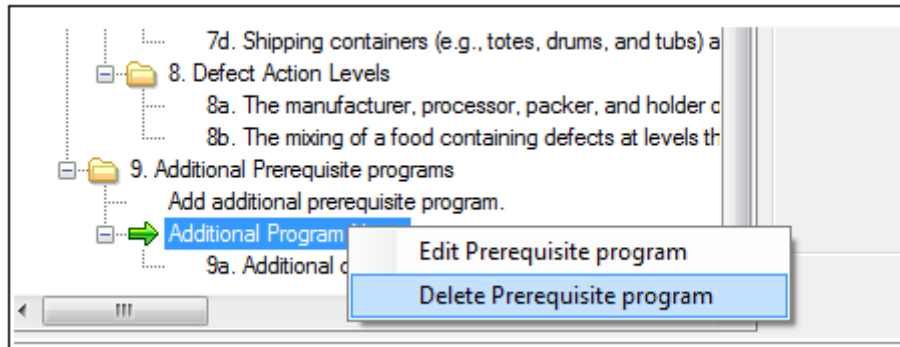

Figure 35: Delete Additional Prerequisite Programs
To import process steps from the Preliminary Steps tab (Figure 35):
- a) Select "Manually" in the prompt shown in Figure 35.